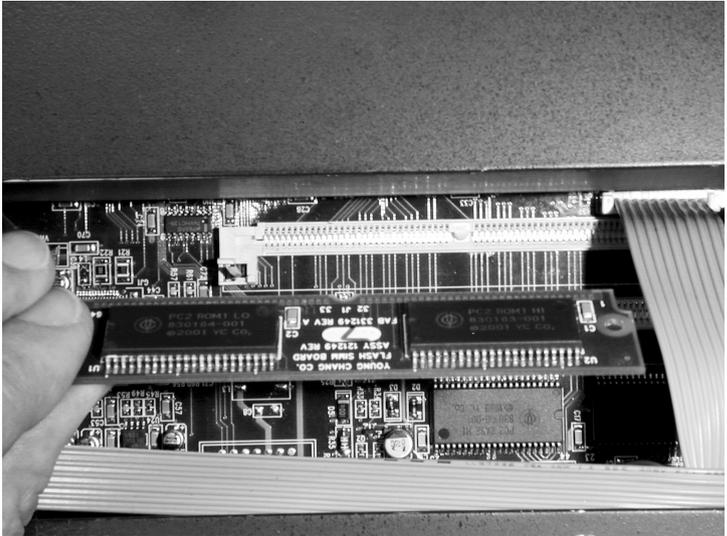

Figure 3 Proper orientation of option board
2. Grasp the board as shown in Figure 3, so that the chips face away from you when you insert the connecting edge of the board into the socket. Notice the semi-circular notch at the center of the connecting edge. This notch aligns with a key on the SIMM socket, and ensures that you position the board correctly in the socket. Note that part of the board will be under the ribbon cable shown at the far right in Figure 3.